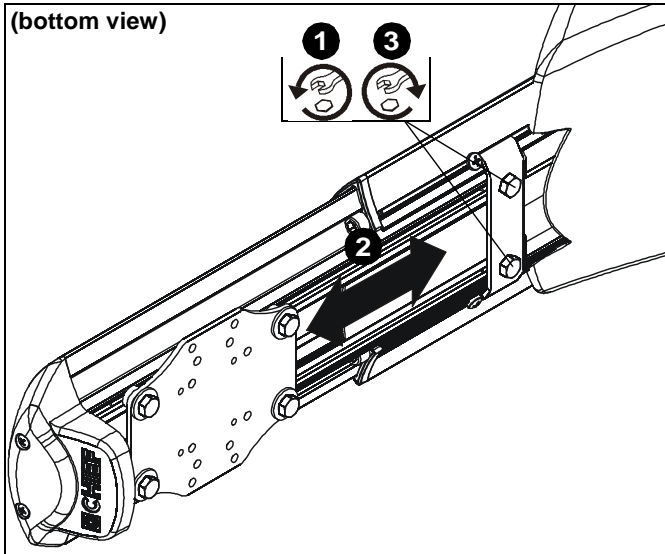

Figure 38
1. Loosen two bolts holding stop bracket in place on underside of short throw projector mount. (See Figure 38)
3. Tighten two bolts holding stop bracket to secure mount in desired position. (See Figure 38)